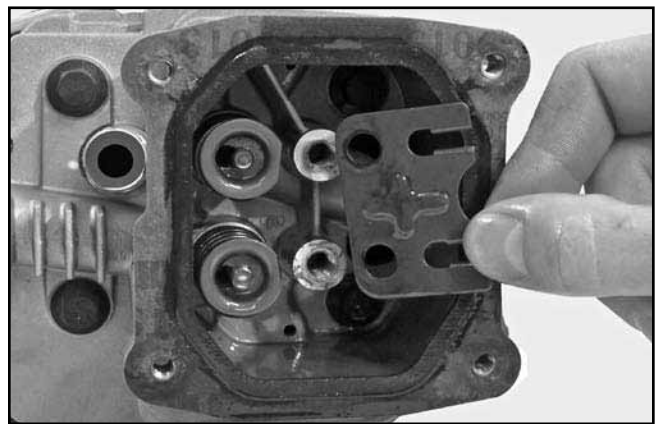

Figure 8-39. Removing Guide Plate.
1. Remove the guide plate from the rocker studs. See Figure 8-39.